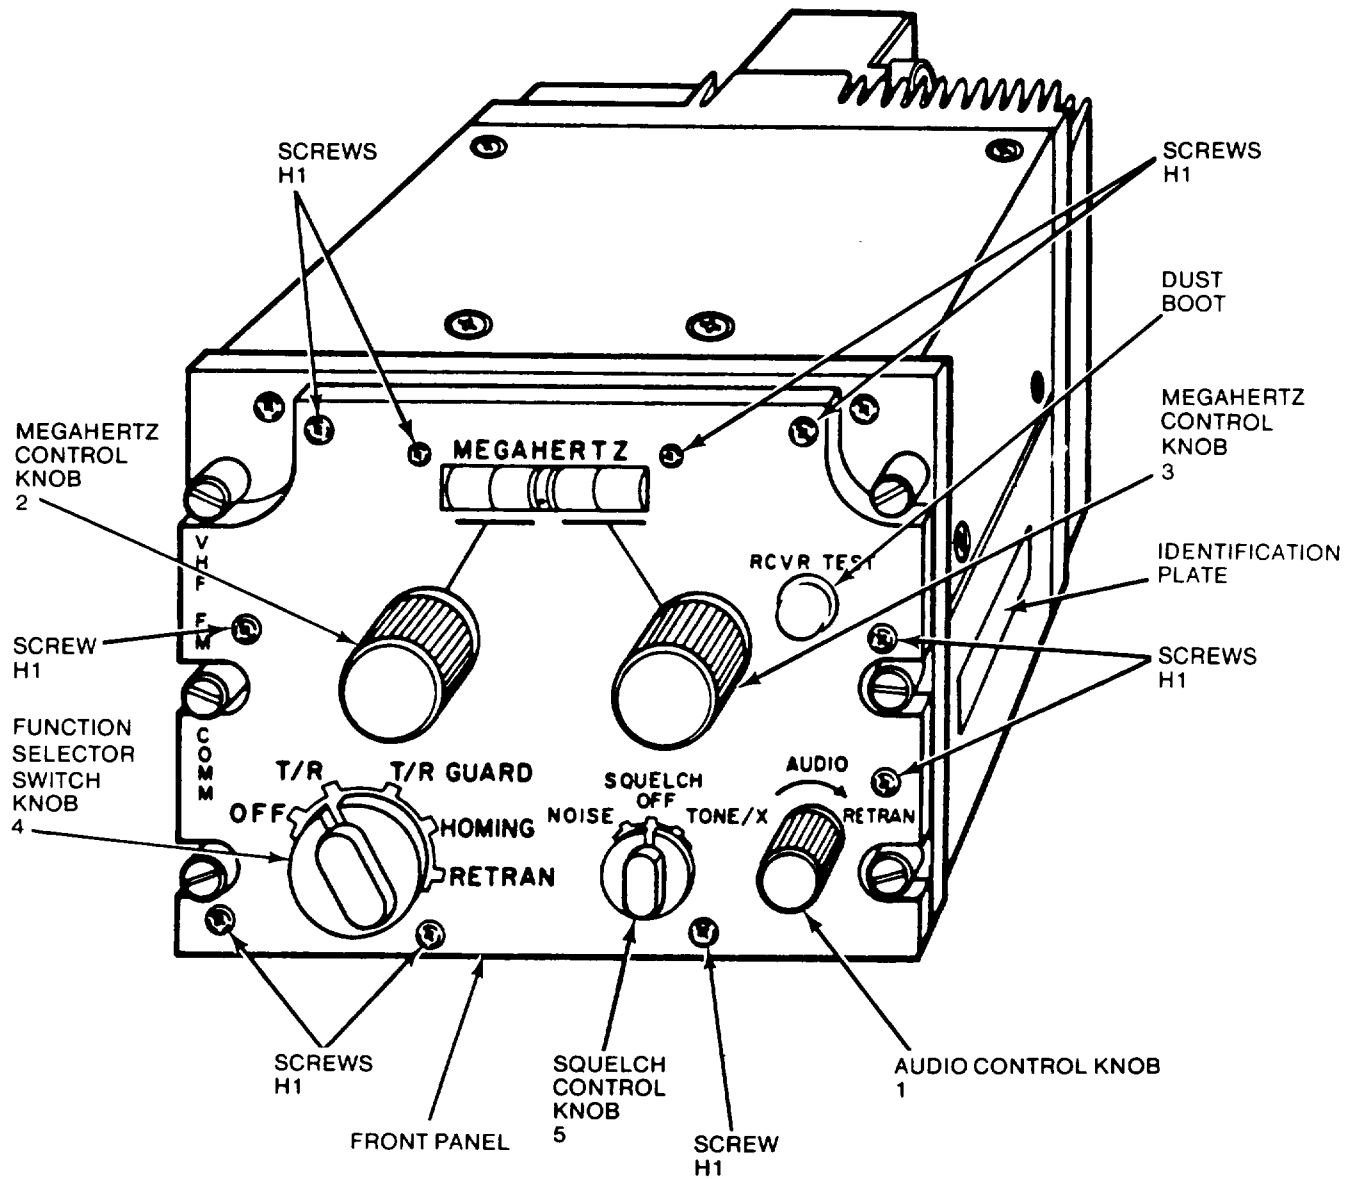
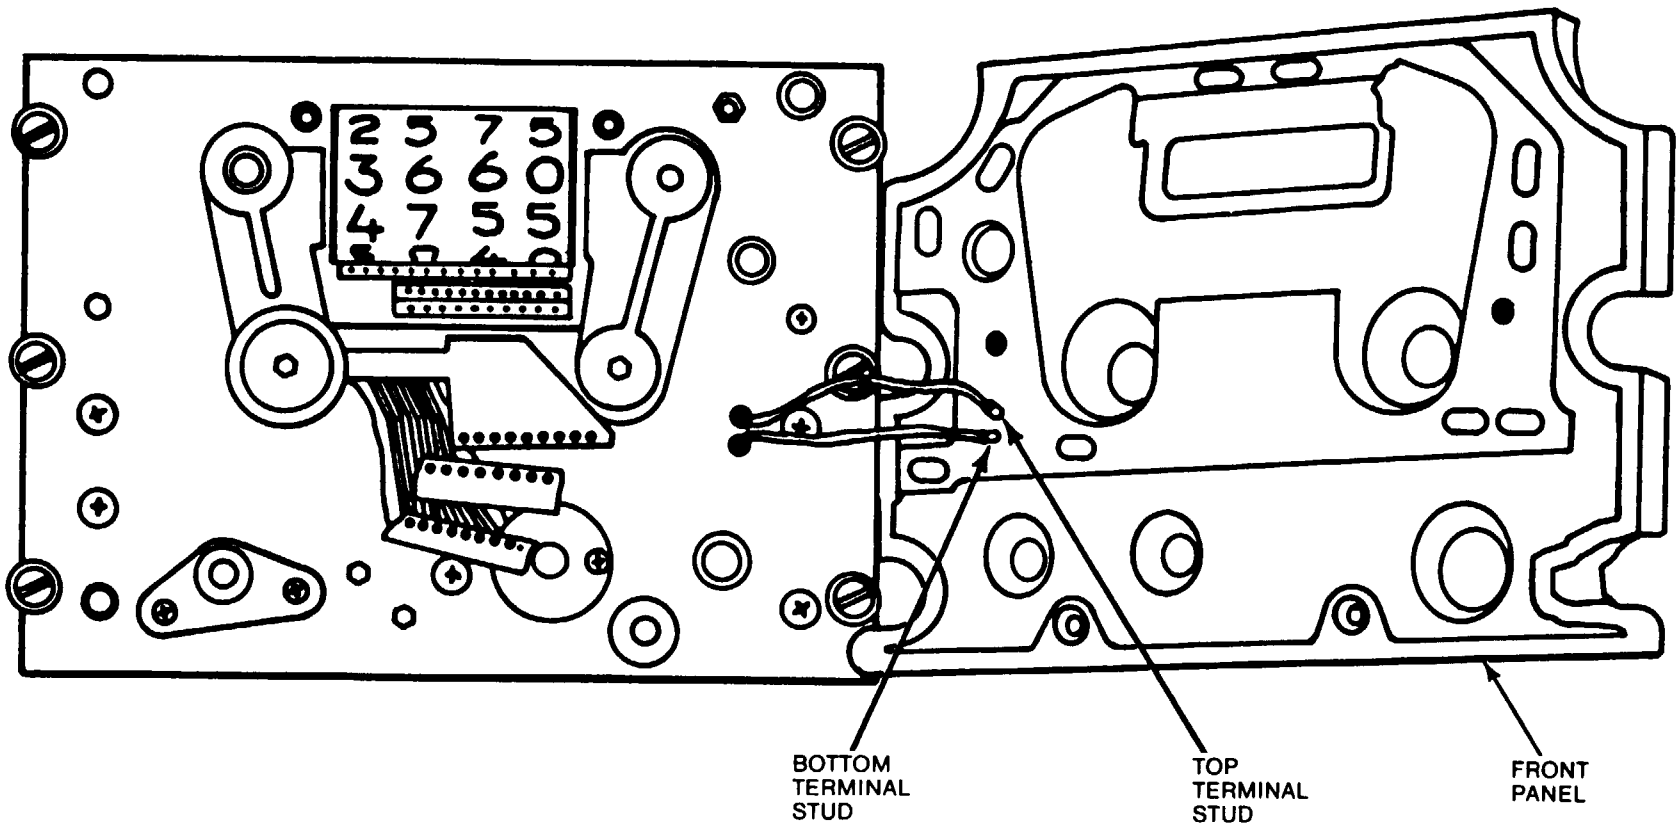

Figure 1. Location of Front Panel Controls Attaching Hardware
Figure 2. Remove/Install Front Panel From Radio Set
- (1) Loosen two setscrews that secure the following knobs to the control shafts. Remove the knobs and associated seals. Refer to figure 1.
- (a) AUDIO control knob (item 1)
- (b) The left MEGAHERTZ control knob (item 2)
- (c) The right MEGAHERTZ control knob (item 3)
- (d) The function selector switch knob (item 4)
- (e) SQUELCH control knob (item 5)
- (2) Inspect all seals for damage. Replace damaged or defective seals.
- (3) Clean dirty seals with a clean, lint-free cloth and relubricate with a silicone-type lubricant if required.
- (4) Set all knobs and seals aside for reuse during reassembly of the end item.
- (5) Remove 10 screws (H1, figure 1) from the front panel. Set all screws aside for reuse during reassembly of the end item.
- (6) Carefully remove front panel from radio set to expose internal wiring.
- (7) Unsolder the wire from the bottom terminal stud at the back of the panel (see figure 2).
- (8) Unsolder the other wire from the top terminal stud at the back of the panel (see figure 2).
- (9) Remove dust boot from RCVR TEST and set aside for reuse during reassembly of the end item. Set front panel aside for return to the Depot for disposition.
- (10) Install dust boot in the RCVR TEST recess on the new ANVIS panel assembly. Ensure dust boot is properly seated at the rear of the panel.
- (11) Place new ANVIS panel assembly in proximity of radio set to allow resoldering of the wires.
- (12) Solder one of the wires to the top terminal stud on the back of the new ANVIS panel assembly.
- (13) Solder the other wire to the bottom terminal stud on the back of the new ANVIS panel assembly.
- (14) Carefully place or push both wires into the chassis recess as the ANVIS panel assembly is placed on the front chassis.
- (15) Install the assembled ANVIS panel assembly to the radio set using 10 screws (H1, figure 1). Replace any missing or damaged screws or lockwashers. The two longer and thinner screws are used on either side of the MEGAHERTZ window.